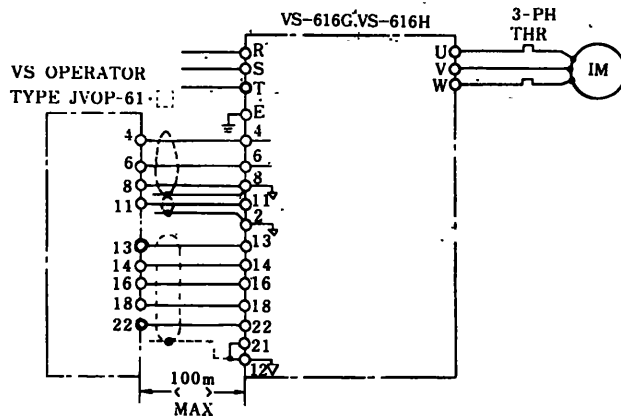

Fig. 11.4 Wiring Distance
If noise voltage is induced in the frequency command line and control command line, the inverter operation is disturbed. Use shielded wires or twisted wires for these lines, install them apart from the power lines, and limit their length to 100 m. Connect the shielding mesh to the 0V terminals (2), (8) and (12) in Fig. 11.4.